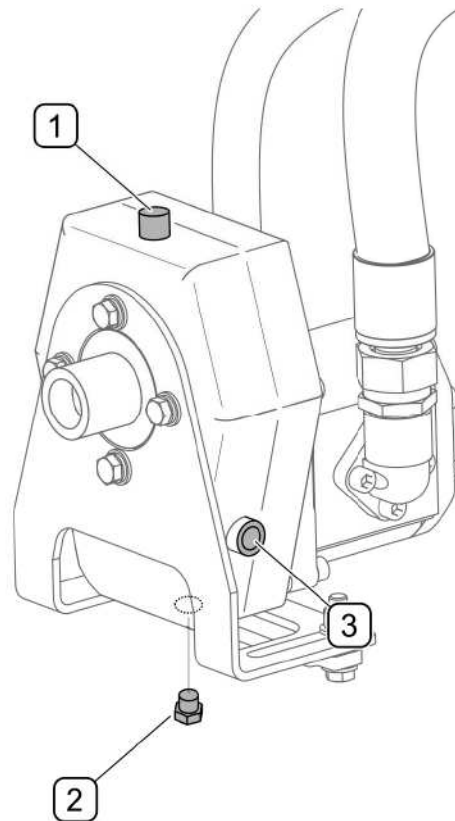

FIG. 5.18 Hydraulic intensifier
Each time before starting work, check oil level in the hydraulic intensifier (FIG. 5.18). To do this, position the hydraulic intensifier body vertically, with the plug and air vent (1) at the top, and check oil level in the inspection opening (3). Proper oil level should reach the middle of the inspection opening (3).
Oil in the hydraulic intensifier (FIG. 5.18) should be replaced every 500 working hours or once a year, whichever occurs first.
To change oil in hydraulic (FIG. 5.18) intensifier: